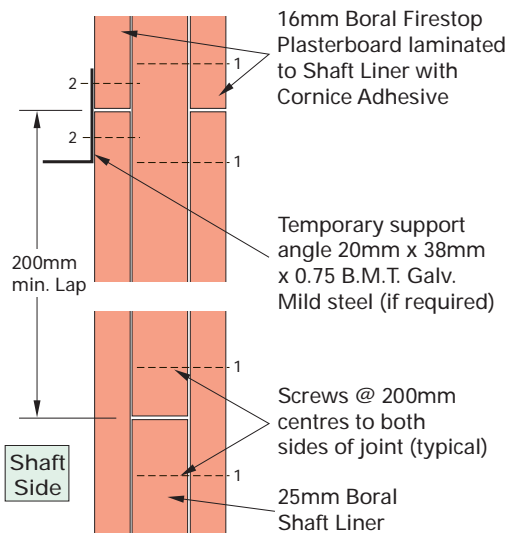

Figure 2. Horizontal Joint
- Fix temporary support angle (Shaft Side) if required for ease of construction at location of horizontal joint (refer Fig.2).